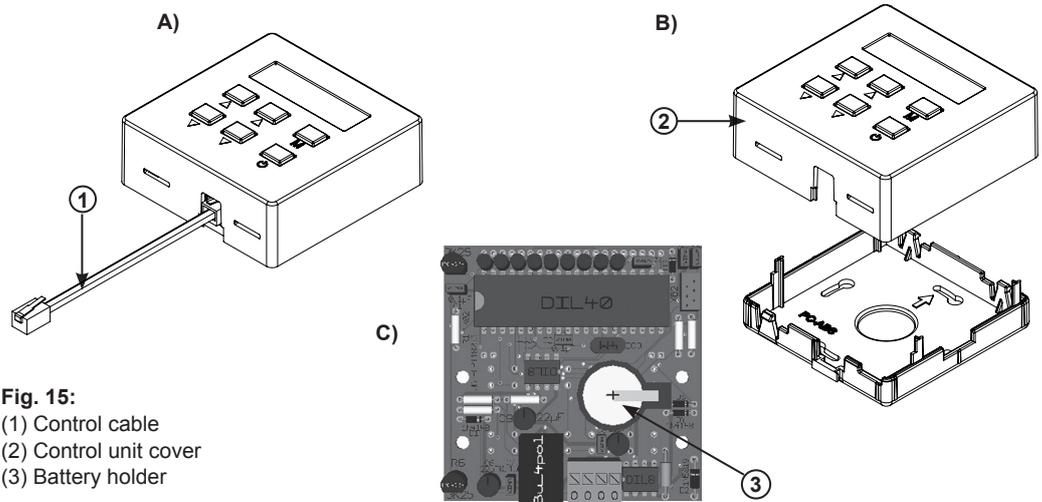

Fig. 15:
- Remove the control cable (1) from the control unit.
- Open the control unit by removing the cover (2).
- The holder (3) for the battery is on the board. Remove the battery and replace it with a new one as shown in Fig. 15 C.